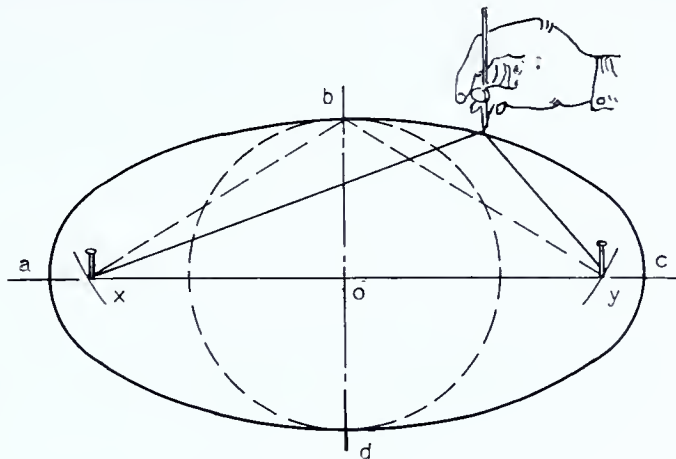

FIG. 243 — *Scribing an Ellipse with the Aid of a Piece of String*
5. With  $b$  and  $d$  as centers describe the short arcs on  $ac$  as shown at  $x$  and  $y$  in Fig. 243.